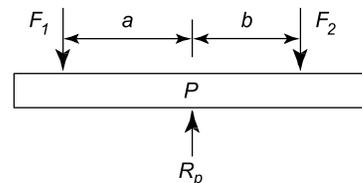

Figure 5.3
Figure 5.3 shows a beam with its support (known as its **pivot** or **fulcrum**) at P , acting vertically upwards, and forces F_1 and F_2 acting vertically downwards at distances a and b , respectively, from the fulcrum.
- The sum of the forces acting vertically downwards must be equal to the sum of the forces acting vertically upwards, i.e. for Figure 5.3, $R_p = F_1 + F_2$
This statement is known as the **principle of moments**. Hence, taking moments about P in Figure 5.3,